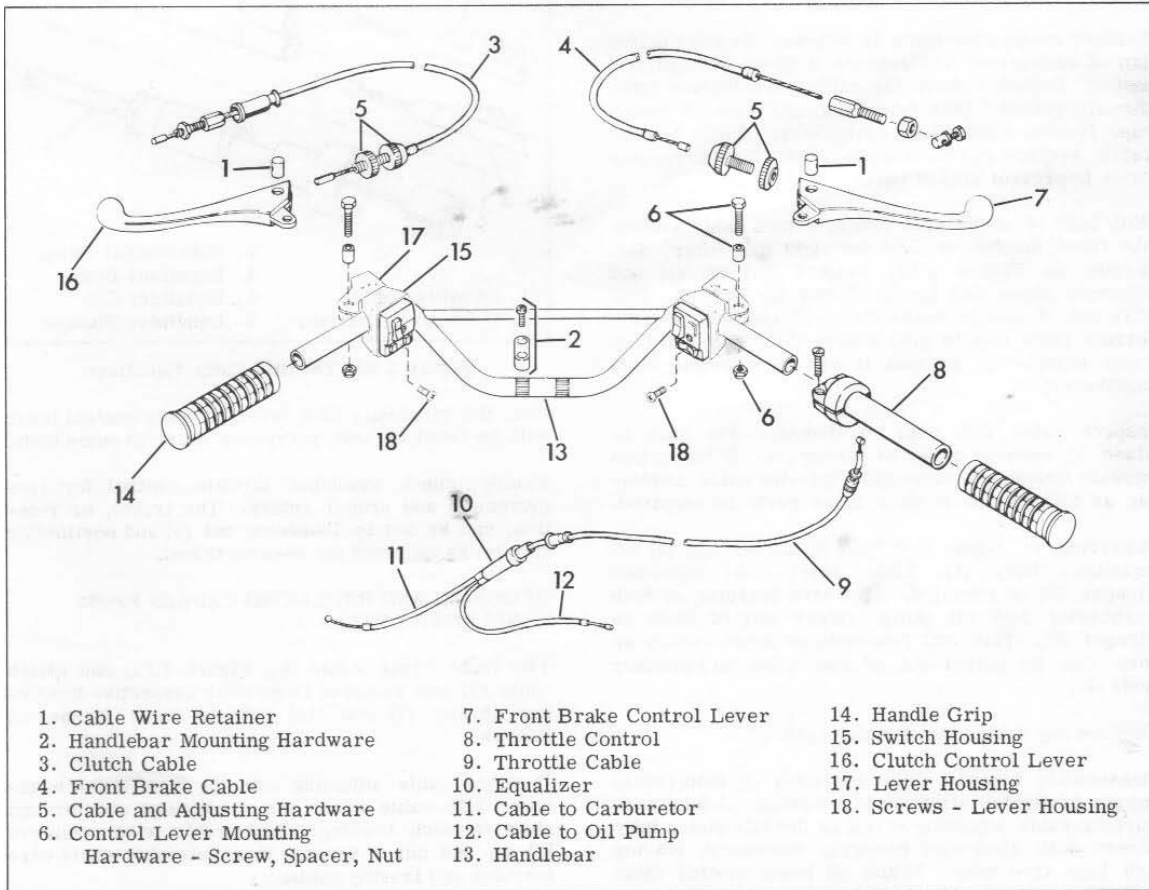
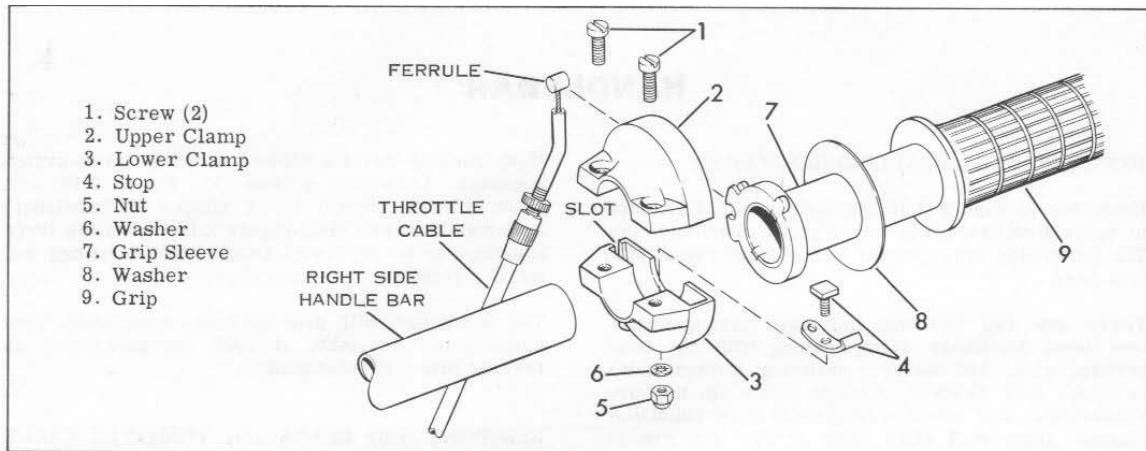

Figure 2.18. Handlebar and Associated Components
Figure 2.19. Throttle Control
Referring to Figure 2.18, handlebar (13) is attached to upper fork bracket of motorcycle by hardware (2). The particular arrangement of hardware varies with fork used.
Next remove throttle control and both lever-switch housings. Loosening screws (1), Figure 2.19, will allow throttle control to be slipped off handlebar. Removal of screws (18), Figure 2.18, will allow lever housings to be separated from switch housings and thereby removed from handlebar.
With both of above ends freed, detach cable assembly from throttle control on right handlebar. Referring to Figure 2.19, remove screws (1) and separate upper and lower clamps (2) and (3). Pull wire out of slot in lower clamp (3) and unhook cable ferrule from slot in grip sleeve (7). This will free cable completely so that it can be removed from motorcycle.
The front brake cable (4), Figure 2.18, and clutch cable (3) are removed from their respective handlebar levers (7) and (16) both in same manner as follows.